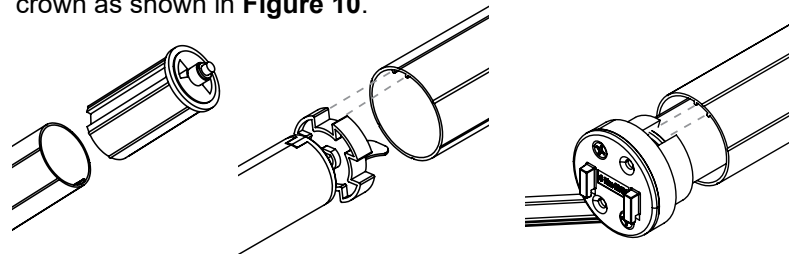

Figure 10. Insert the Heavy Duty End Pin and Motor Assembly.
Step 6. Insert the heavy duty end pin (and tube adapter where required) and the motor assembly into the roller tube. Make sure to line up the tabs on the tube with channels on the driver and crown as shown in **Figure 10**.